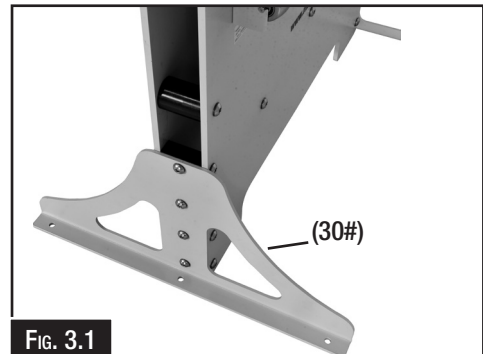

FIG. 3.1
2. Locate the two wide feet anchor plates (30#) and attach with the M16 x 30 round head hex screws and flat washes. (Fig. 3.1)